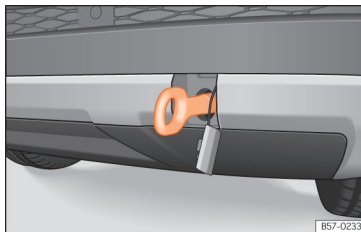

Fig. 104 Right side of the rear bumper: towline anchorage screwed in.
- Screw the towing eye in the housing by turning it to the maximum **anticlockwise** »» **Fig. 104** »» ❶. Use a suitable object that can completely and securely tighten the towing eye in its housing.